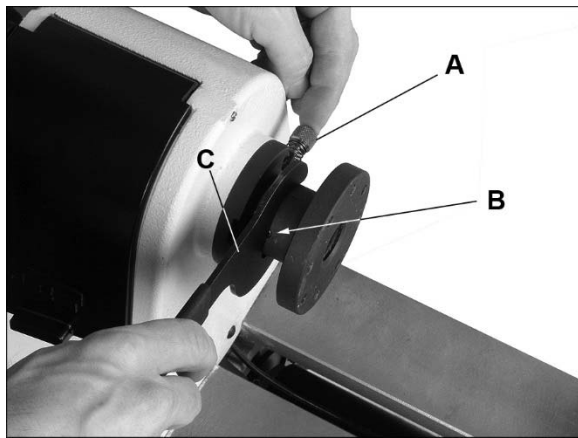

Figure 5
Referring to Figure 5:
6. Back out both set screws (B, Figure 5) in the faceplate.